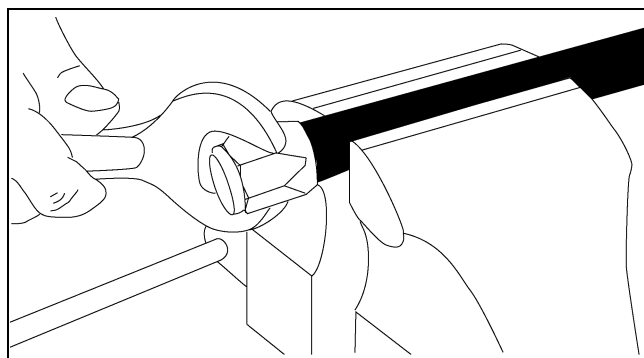

Figure 5C
- c. Screw the socket counterclockwise until it bottoms out. Back off 1/4" turn. (See Figure 5C.)